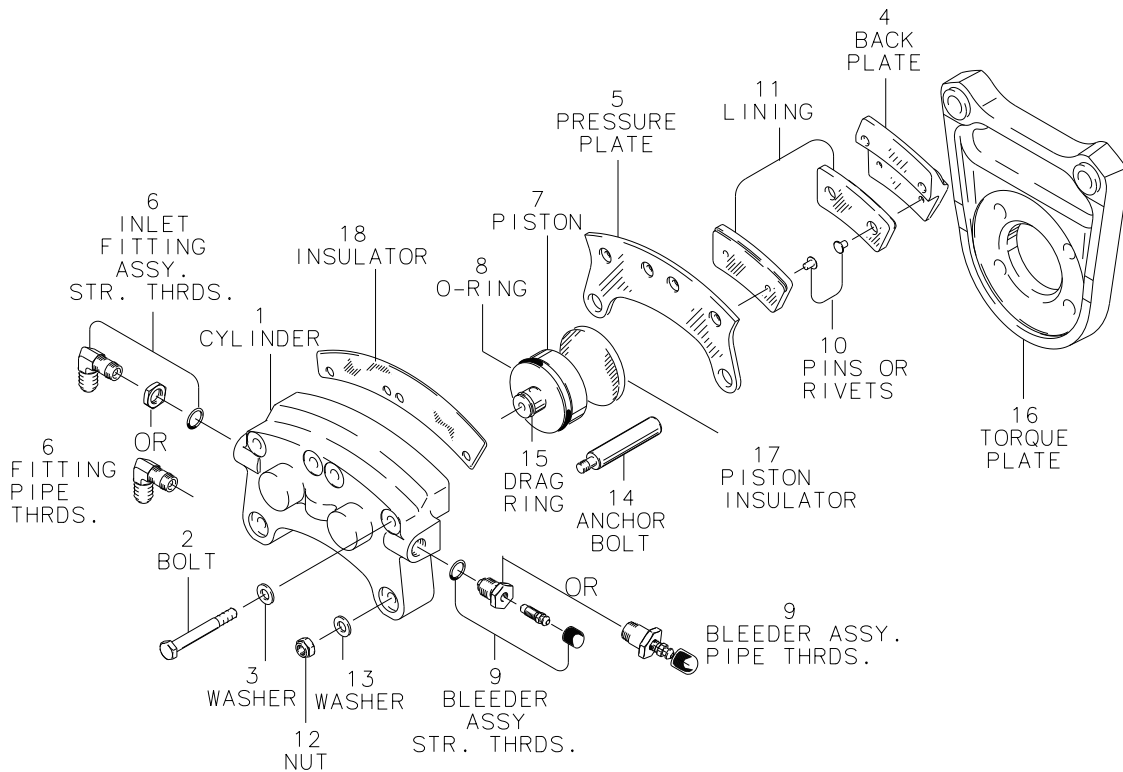

Figure 2 - Typical External Disc Brake Assembly
The brake is an external caliper-type design. The cylinder (1), Ref. Figure 2, is a cast aluminum or magnesium housing. The pistons (7) are contained by the cylinder and form a pressure vessel for the brake fluid. Two anchor bolts are press fitted into the cylinder and are retained with nuts (12) and washers (13). The pressure plate (5) is held in position by the two anchor bolts. Back plate (4) is secured to the cylinder with bolts (2) and washers (3) on the opposite side of the brake disc. The back plate and pressure plate each hold brake linings (11). The cylinder is allowed to slide or float in torque plate (16) bushings. The torque plate is mounted to the landing gear axle. The caliper (cylinder assembly) is the assembly which includes the cylinder, pistons, back and pressure plates, linings, and other related components. Back plate to cylinder insulator shim (18) and piston to pressure plate insulator disc (17) are typically found on calipers that use the metallic based lining only. Specific illustrated parts breakdown for brake assemblies may be found at [clevelandwheelandbrake.com](http://clevelandwheelandbrake.com).